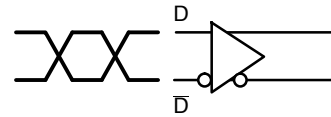

Figure 17. Differential Inputs Driven Differentially
**Differential Inputs Driven Differentially (see Figures 17 & 19)**